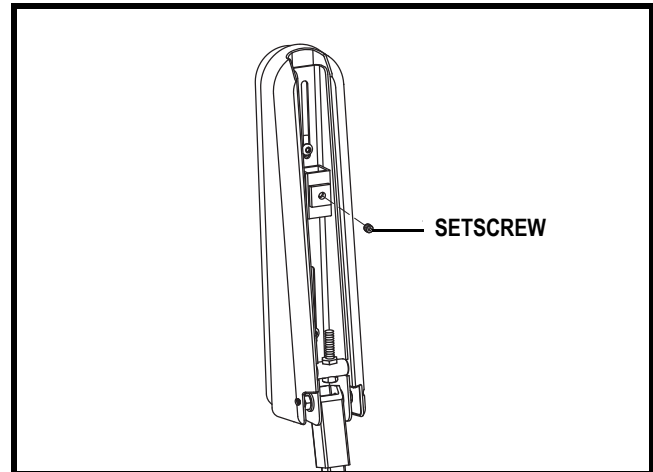

Figure 12. Controller Installation (Underside of Armrest)
2. On a contour seat, flip up the armrest and loosen the setscrew. See figure 12. On the standard seat, loosen the setscrews in the mounting block. See figure 20.